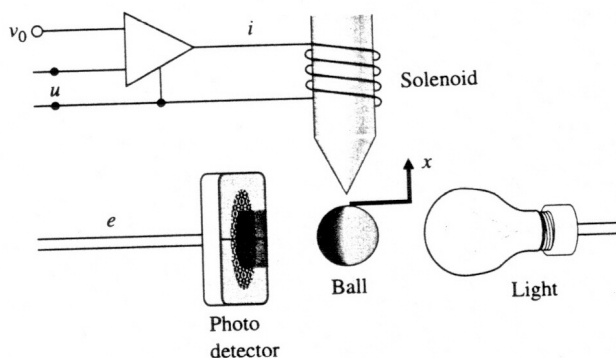

Figure 5.61: Elementary magnetic suspension
29. An elementary magnetic suspension scheme is depicted in Fig. 5.61. For small motions near the reference position, the voltage e on the photo detector is related to the ball displacement x (in meters) by $e = 100x$. The upward force (in newtons) on the ball caused by the current i (in amperes) may be approximated by $f = 0.5i + 20x$. The mass of the ball is 20 g, and the gravitational force is 9.8 N/kg. The power amplifier is a voltage-to-current device with an output (in amperes) of $i = u + V_0$.